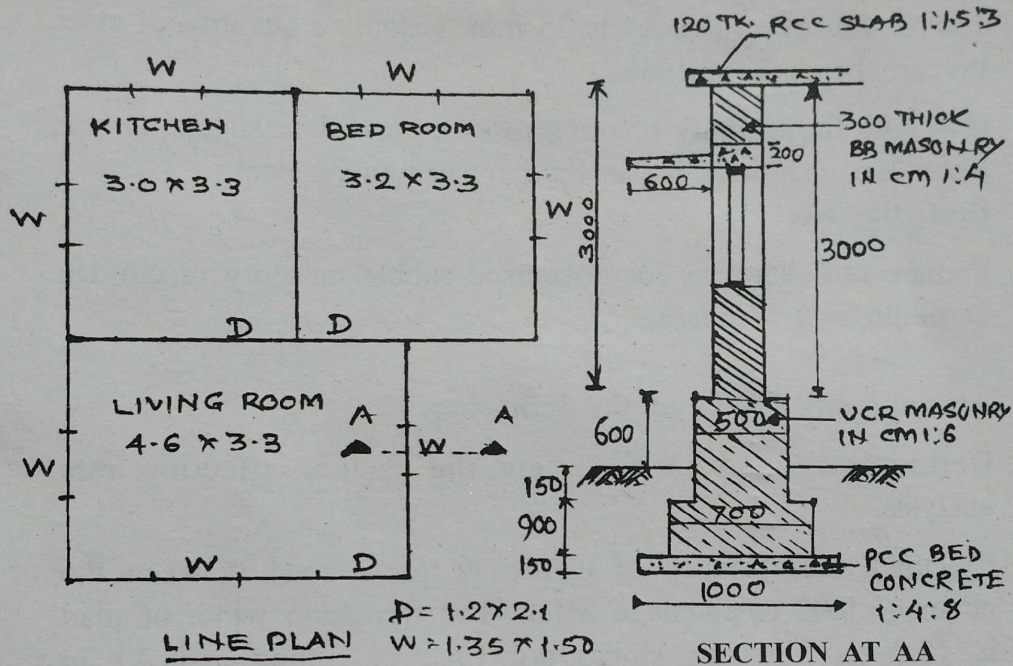

Fig. No. 1
- a) Calculate the quantity of UCR masonry in CM 1:4 in foundation and plinth. Enter the quantities in standard measurement steel. (Ref. fig. No. 1)
- b) Calculate the quantity of P.C.C. in footing. Enter the quantities in standard measurement steel. (Ref. fig. No. 1)
- b) Calculate the quantity of brickwork in cm 1:4 in superstructure. Enter the quantities in standard measurement steel (Ref. fig. No. 1)